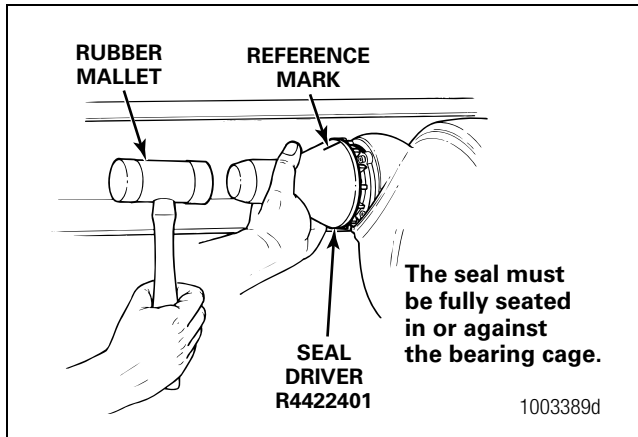

Figure 5.32
4. Use a rubber mallet to drive the seal into or against the bearing cage. The seal must fully seat into or against the bearing cage. Figure 5.32.